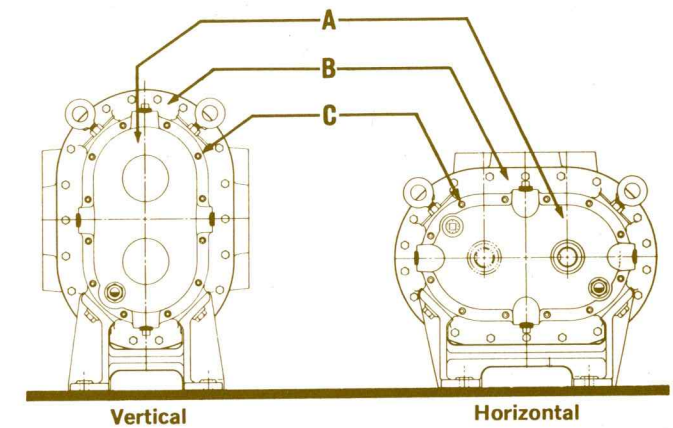

FIGURE NO. 1
Timing gears, Fig. 2, may be inspected simply by removing the gear case after draining oil. Refer to Fig. No. 1. The gear case (A) is secured to the headplate (B) with cap screws (C).